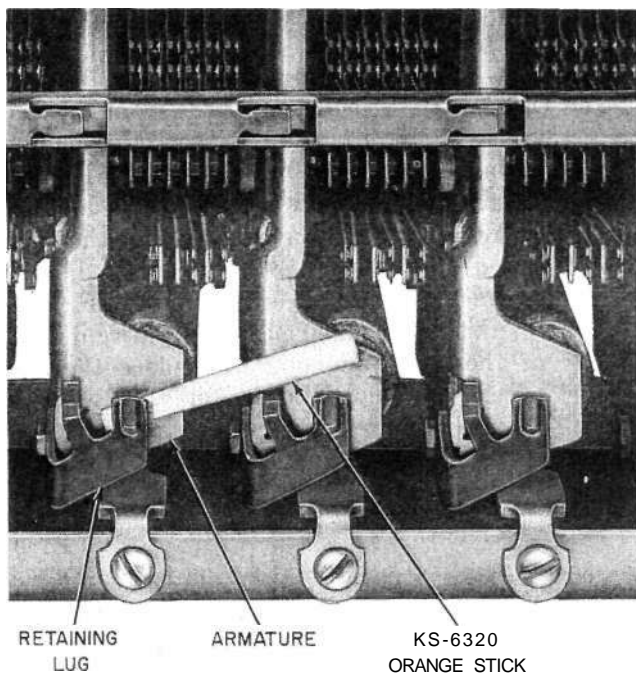

Fig. 32—Blocking 324-, 325-, 328-, and 338-Type Switch Holding Magnets - Operated
(2) To block the holding armature operated, insert either the 1-1/2 inch length of orange stick (see Fig. 32) or the 768A blocking tool between the armature and the armature backstop. If the orange stick is used, insert the flat part of the orange stick between the armature and the backstop' with the orange stick at an angle of approximately 45 degrees to the right.
- (2) To block the holding armature operated, insert the 768A blocking tool between the armature and the backstop, similar to the method used in Fig. 32.